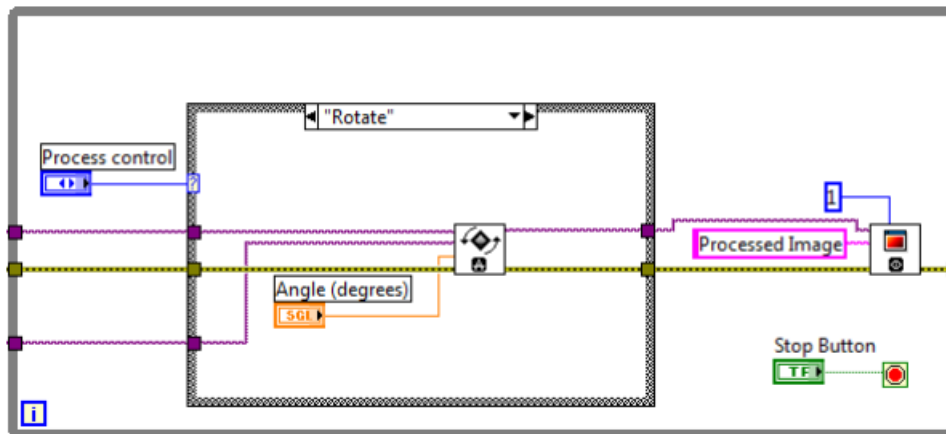

Figure 19: Wiring for Rotate Case
18. Wire the rest of **Rotate Case** as illustrated in Figure 19.